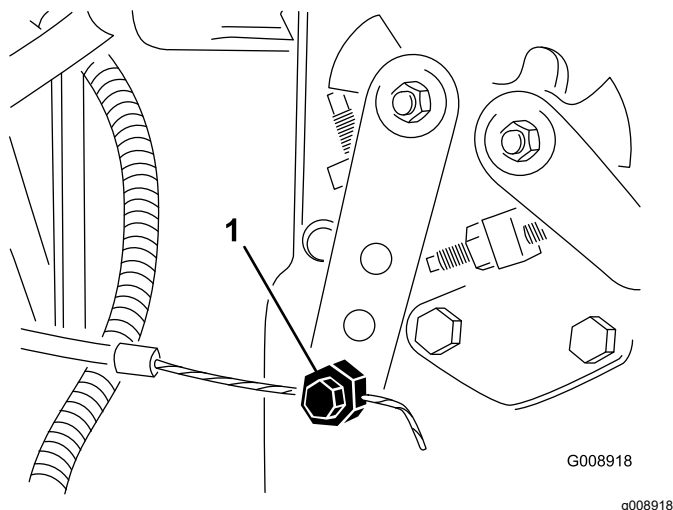

Figure 57
2. Loosen the throttle cable connector on the injection pump lever arm (Figure 57).